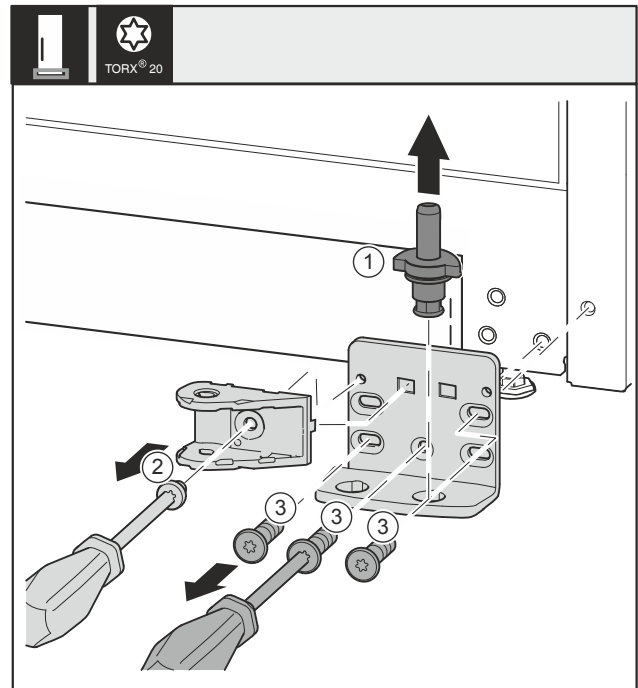

Fig. 33 *
- Pull the bearing bolt Fig. 33 (1) out upwards completely.*
- Use screwdriver to unscrew the screw Fig. 33 (2) and remove the closing damper connection.*
- Use screwdriver to unscrew the screws Fig. 33 (3) and remove the swap bearing block.*